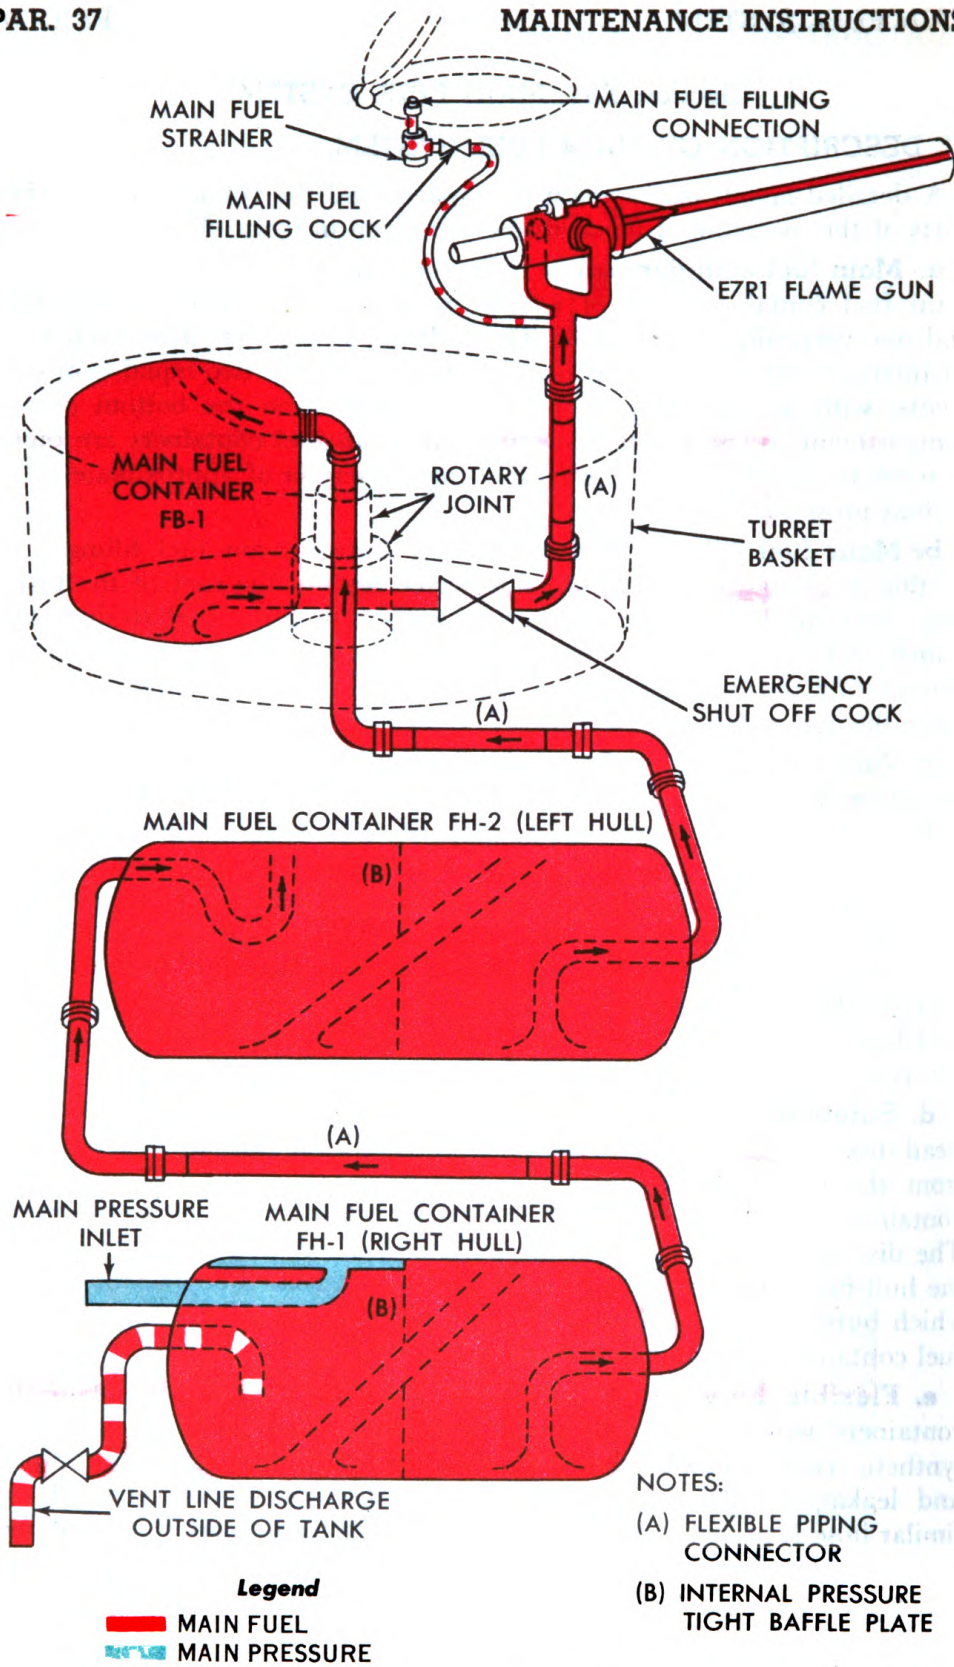

Figure 37—Flow diagram of main fuel system.
A detailed layout of the main fuel system and the connections to other parts of the mechanized flame thrower is given in figure 37.
a. Main fuel containers. The main fuel system (fig. 37) includes three main fuel containers, two of which are placed horizontally in the hull and one vertically in the turret. The hull main fuel containers each have an internal vertical bulkhead dividing the vessel into two equal compartments, with a 3-inch pipe connection leading from the bottom of one compartment to the top of the other. All main fuel containers are piped in series to form what is essentially a single reservoir of approximately 290 gallons gross fuel capacity.